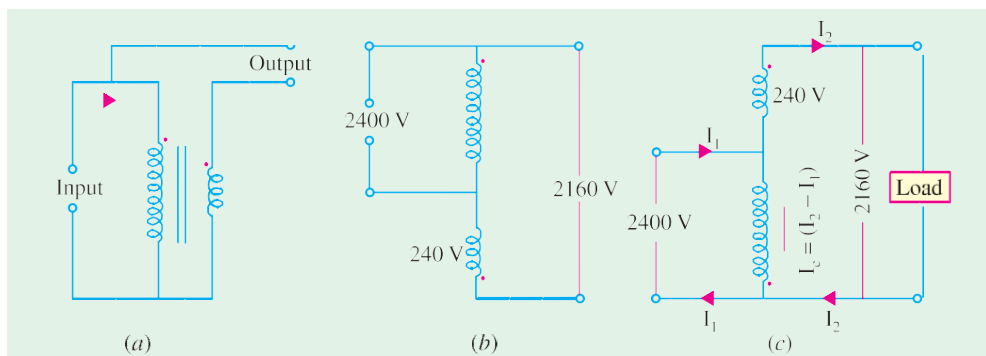

Fig. 32.63
Such a connection is shown in Fig. 32.63 (a). The circuit has been re-drawn with common polarity at top in Fig. 32.63 (b) and at bottom in Fig. 32.63 (c). In this case, the transformer acts as a step-down auto-transformer.
**Example 32.90.** For the 20-kVA, 2400/240-V two-winding step-down transformer shown in Fig. 32.63 (a) connected as an auto-transformer with additive polarity as shown in Fig. 30.61 (d), compute